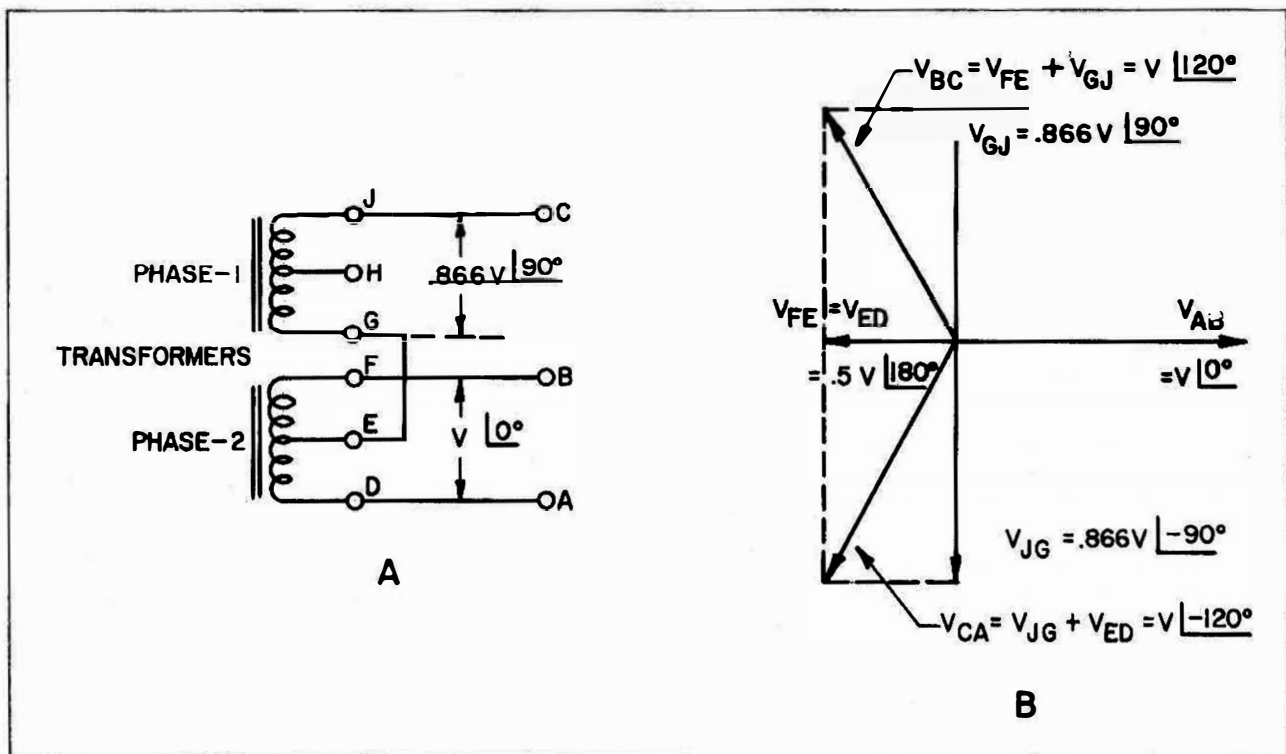

Figure SA-2. Scott Transformer Connection
**Headwheel Motor Connection** — The conversion from 2-phase to 3-phase power for the headwheel motor is obtained by the use of the Scott transformer connection illustrated in figure SA-2; for this connection the 72 $\Omega$  and C.T. windings are used. The amplitude of the voltage in the output circuit operating at the 90-degree phase position must be 86.6% of the voltage in the reference circuit. When one side